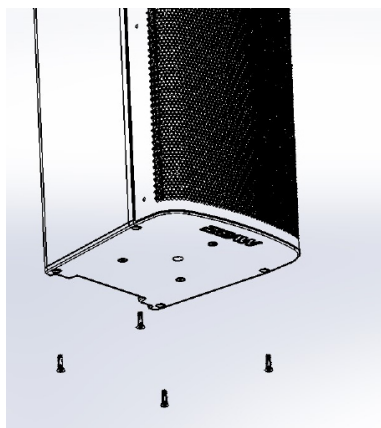

Figure 7 - Remove screws
- Remove 4x M5 screws from bottom of AC6 (Figure 7).